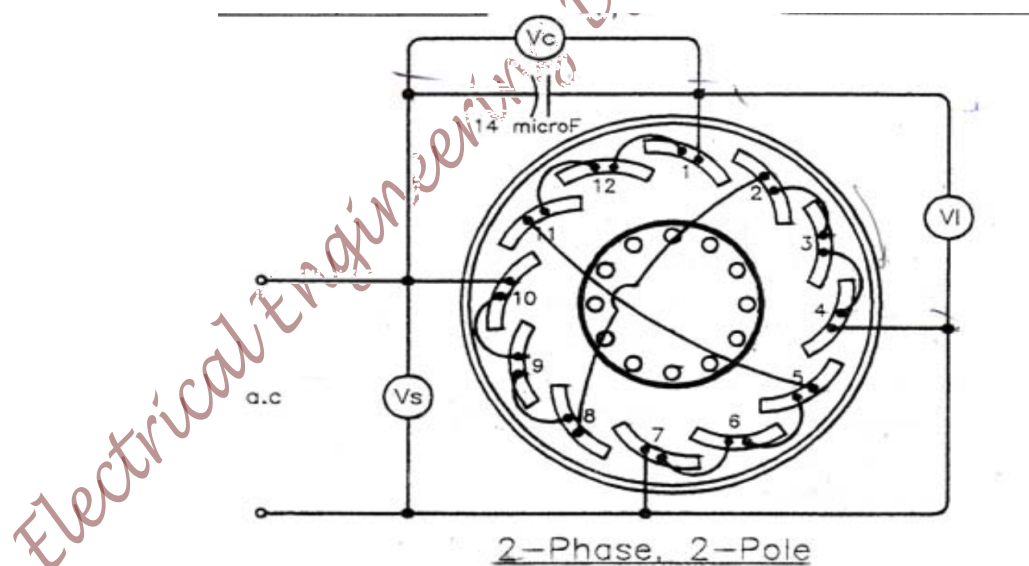

Figure 4
1. Make the connections as shown in Figure 4